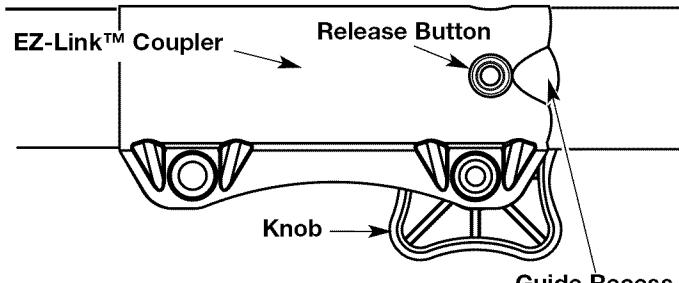

Fig. 16
1. Turn the knob counterclockwise to loosen (Fig. 16).
2. Press and hold the release button (Fig. 16).
1. Turn knob counterclockwise to loosen (Fig. 16).
NOTE: Aligning the release button with the guide recess will help installation (Fig. 16).